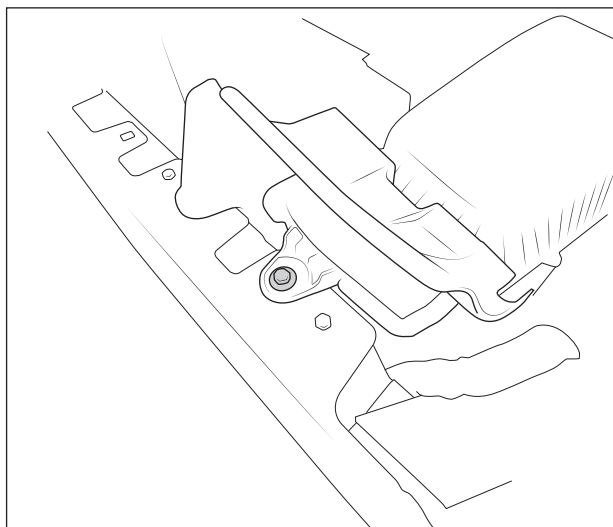

Figure 6
- B. Use M10 wrench or socket to remove the mounting bolt holding airbox inlet to fender and discard. This outboard bolt will not be reused. (fig. 6).